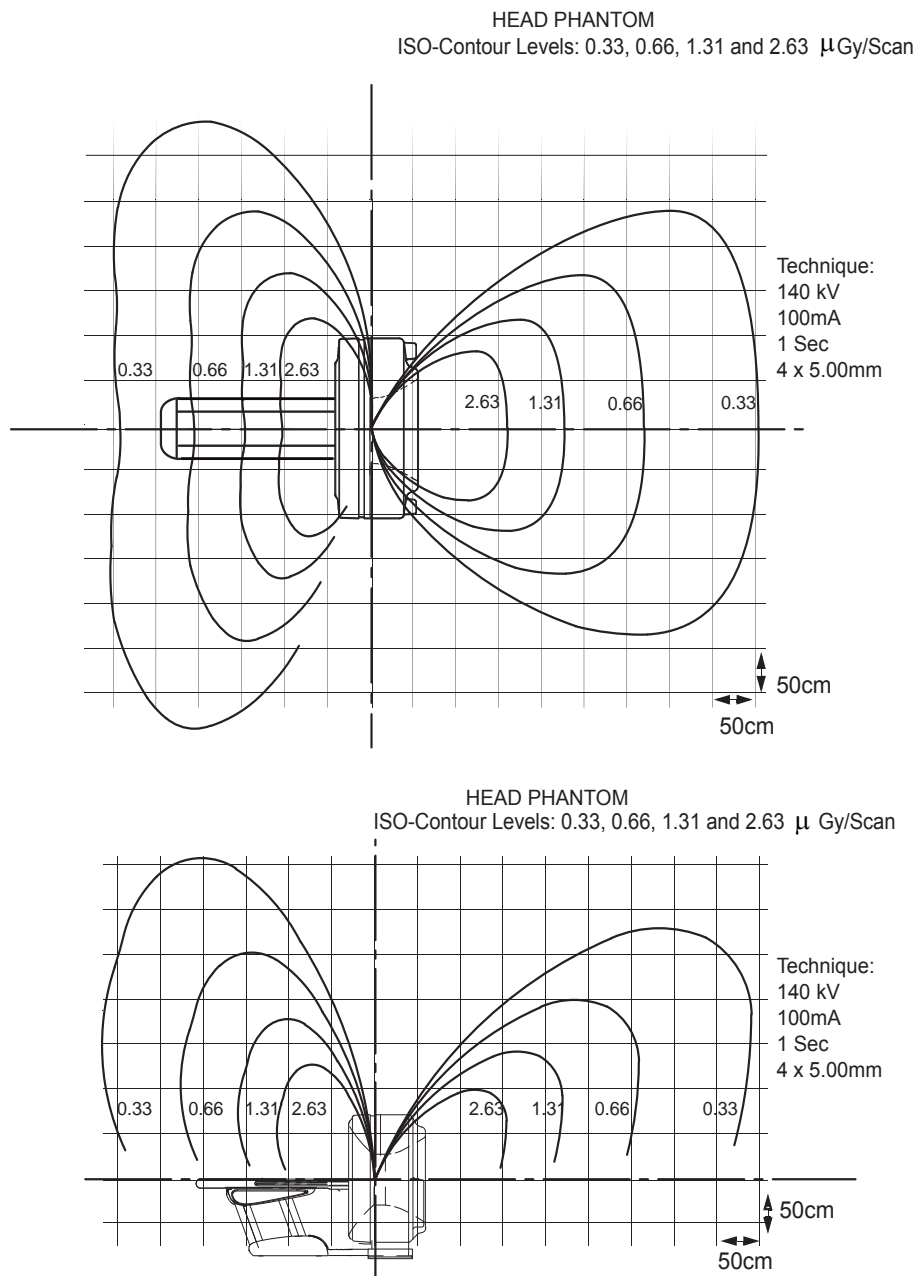

Figure 3-23 Typical Scatter Survey (Head Filter)
- Scatter radiation levels within the scanning room (see Figure 3-23)
Figure 3-23 depicts measurable radiation levels within the scanning room while scanning a 32 cm CTDI phantom (body) and a 20 cm water phantom (head) with the technique shown.